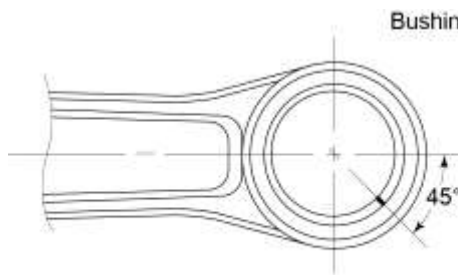

Figure 37
- F. Make sure the split in the bushing is located so that it is toward the piston end of the connecting rod and 45° off the centerline (Figure 37) and press the bushing into the connecting rod until the edge of the bushing is flush with the surface of the connecting rod.